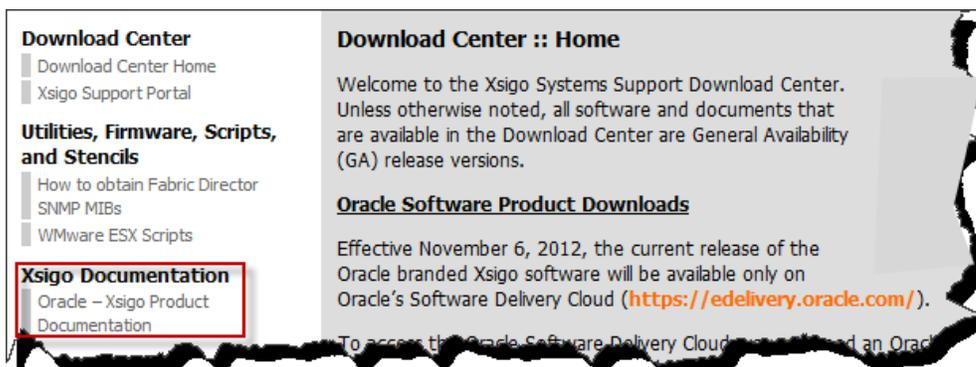

Figure 4 Getting Documentation for Software
- Step 2 On the left navigation panel, click the *Oracle – Xsigo Product Documentation* link as shown in figure Figure 4.